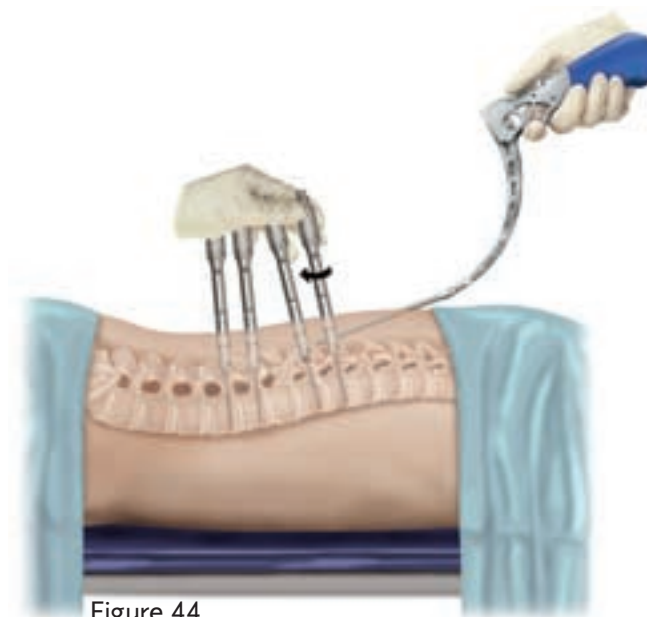

Figure 44
2. If using Multi-Axial Screws, rotate an Extender by hand (Figure 44). If the Extender rotates freely, then the Rod has not passed through the Extender.